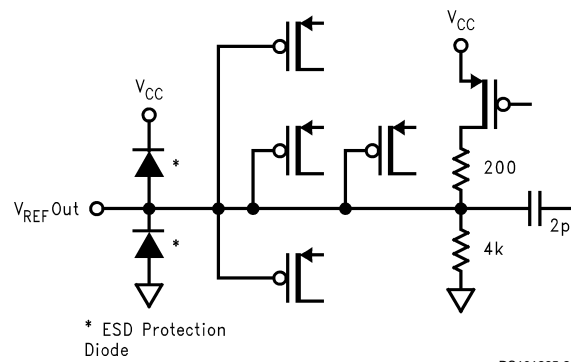

FIGURE 22. Pin 26  $V_{REF}$  Out
**Pin 26— $V_{\text{REF}}$  Out** The voltage that the VideoPlex signal is referenced to is output on this pin. A 0.1  $\mu\text{F}$  capacitor should be connected between this pin and ground and be located close to the LM1253A. This pin is connected to the  $V_{\text{REF}}$  pin of the LM2453. A 0.1  $\mu\text{F}$  capacitor also needs to be connected very close to the LM2453. A 100  $\mu\text{F}$  capacitor should also be connected to this trace. Figures 29, 30 show the external schematic of pin 26, Figure 22 shows the internal schematic.